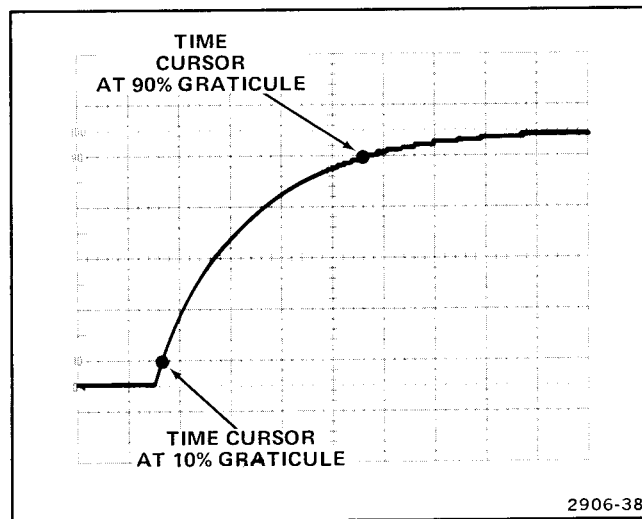

Figure 21. Rise time, cursor method.
4. Set the TIME/DIV switch for a single-event display, with the rise time spread horizontally as much as possible within the viewing area (see Figure 21).